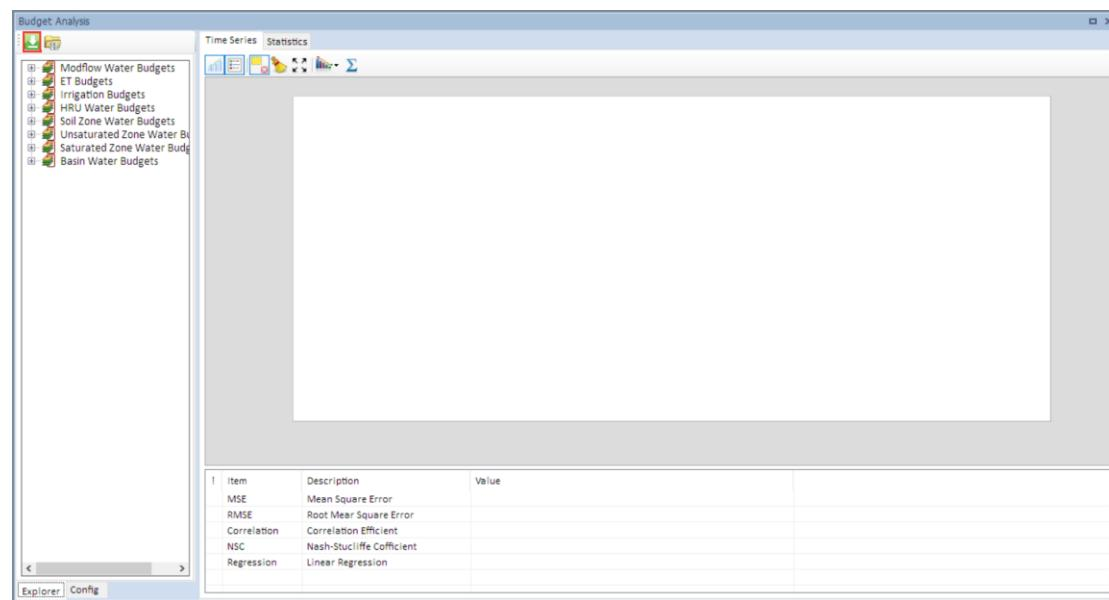

Figure 8-8. Budget Analysis dialog.
- 1) Select Model -> Budget Analysis in the Main Menu Bar (Figure 8-8). Click Load button. All budget items are organized into a hierarchy structure.